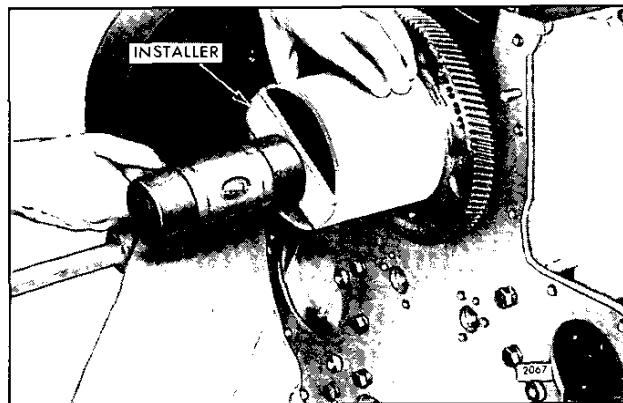

Fig. 2 – Installing Crankshaft Timing Gear Using Installer J 7557
4. Place a heavy hammer against the head of the bolt in the front end of the crankshaft. Place installer J 7557 against the rear face of the timing gear and drive the gear up against the shoulder on the crankshaft (Fig. 2).